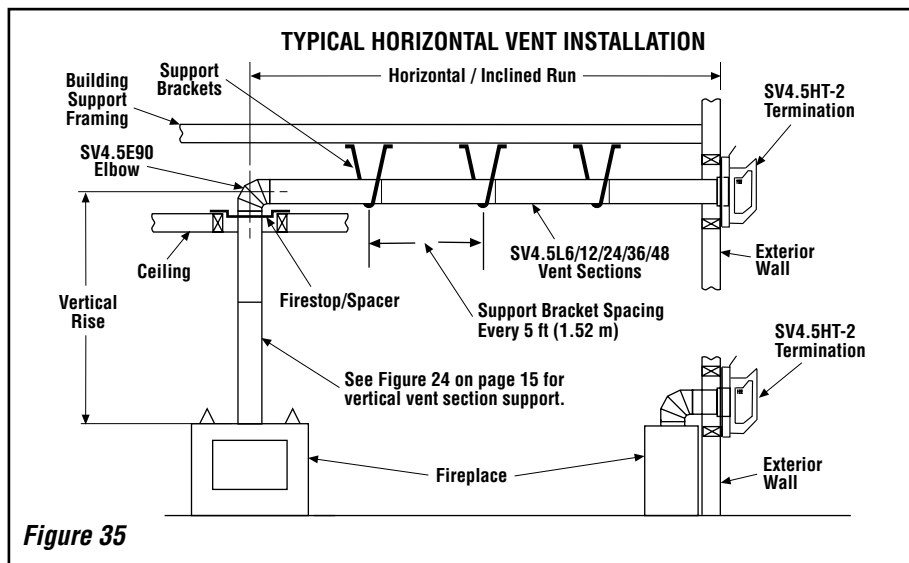

Figure 35
Figures 35, and Figures 39 to 44 on pages 21 to 23 and their associated Horizontal Vent Table illustrate the various horizontal venting configurations that are possible for use with these appliances. **Secure Vent** pipe applications are shown in these figures; **Secure Flex** pipe may also be used. A Horizontal Vent Table summarizes each system's minimum and maximum vertical and horizontal length values that can be used to design and install the vent components in a variety of applications.
I. Continue installation of horizontal/inclined sections - Continue with the installation of the straight vent sections in horizontal/inclined run as described in **Step E**. Install support straps every 5 ft. (1.52 m) along horizontal/inclined vent runs using conventional plumber's tape. See **Figure 35**, it is very important that the horizontal/inclined run be maintained in a straight (no dips) and recommended to be in a slightly elevated plane, in a direction away from the fireplace of 1/4" rise per foot (20 mm per meter) which is ideal, though rise per foot run ratios that are smaller are acceptable all the way down to at or near level. Use a carpenter's level to measure from a constant surface and adjust the support straps as necessary.